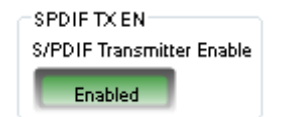

Figure 40. Activating the **SPDIF\_TX\_EN** Register
- d. To activate the S/PDIF interface, click the **Disabled** button in the **SPDIF TX EN** box. When this button is clicked, the text displayed on the button changes to **Enabled** and the button color changes from red to green (see Figure 40).